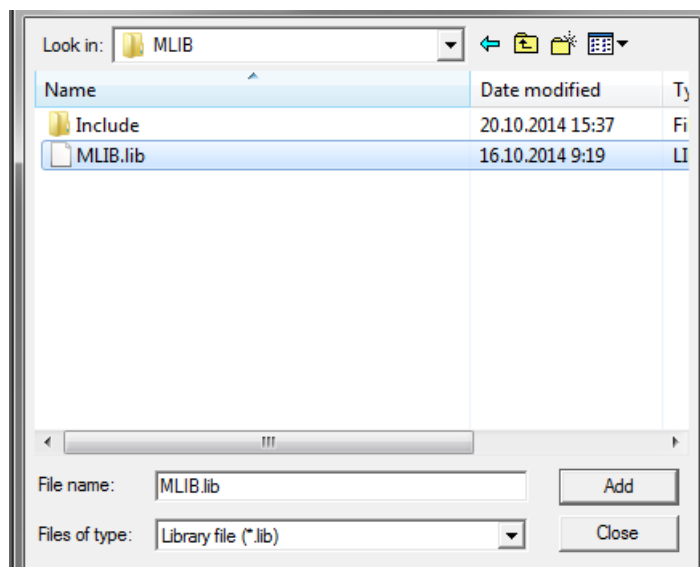

Figure 1-30. Adding .lib files dialog
5. Navigate to the parent folder C:\NXP\RTCESL\CM4F_RTCESL_4.6_KEIL\MLIB, and select the *mlib.lib* file. If the file does not appear, set the Files of type filter to Library file. Click Add. See Figure 1-30.